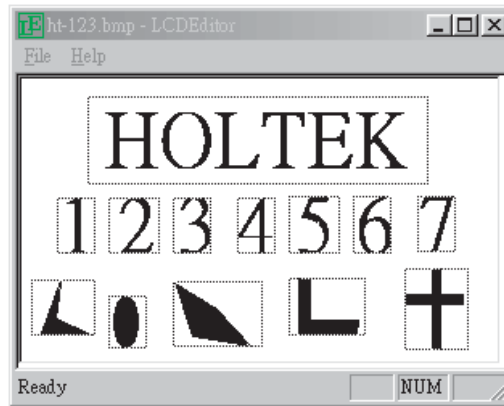

Fig 14-7
- The panel will be displayed in the window as in Fig 14-7